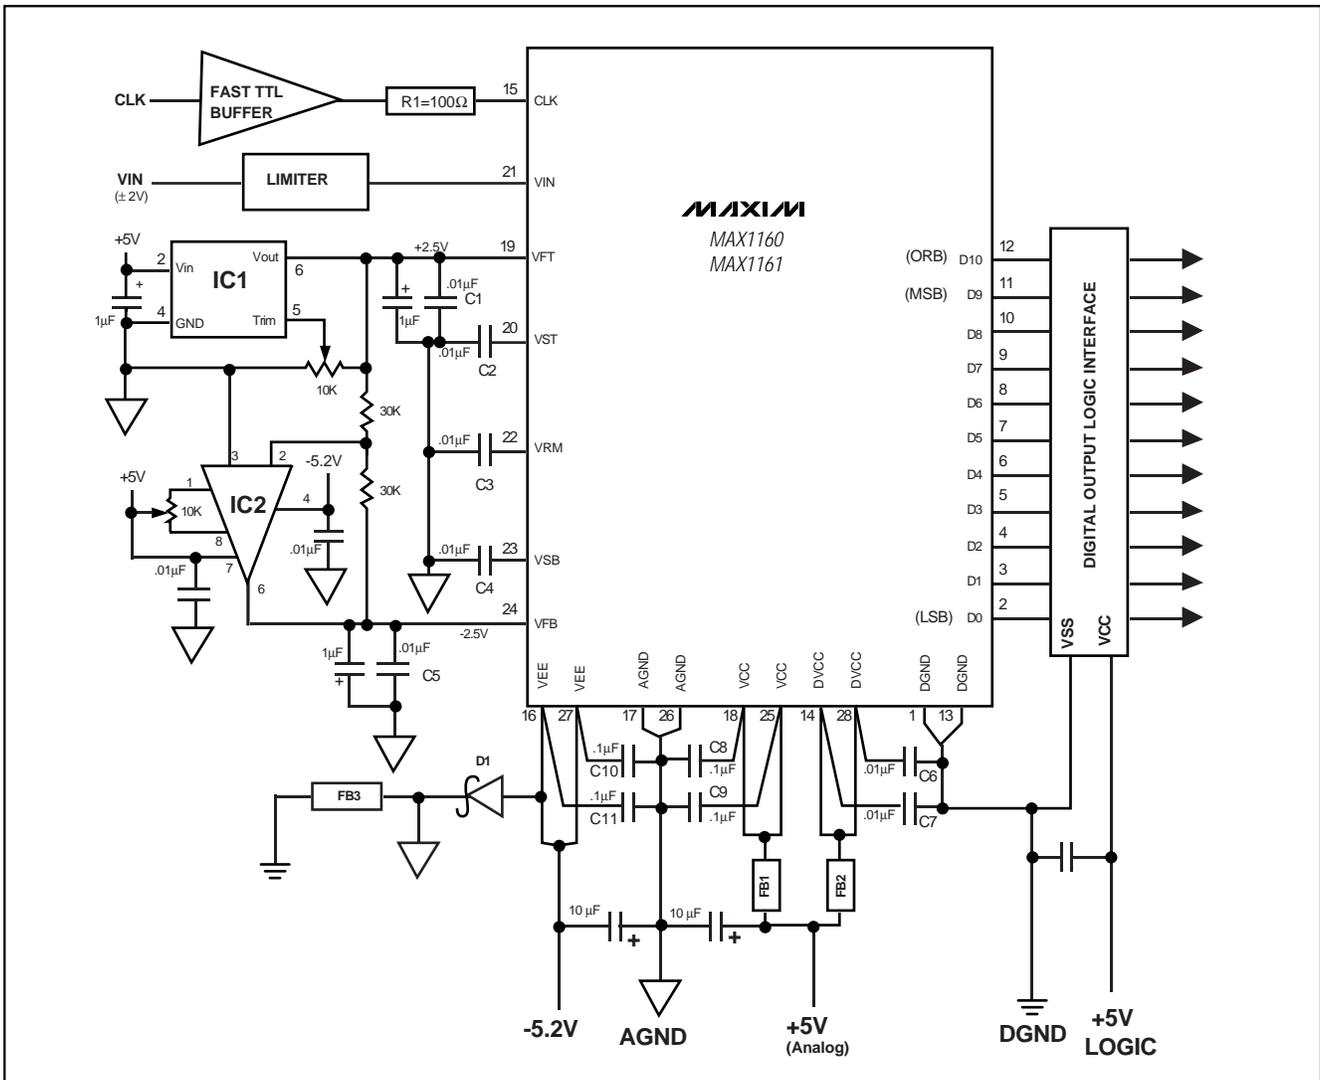

Figure 11. Typical Interfacing Circuit
The MAX1160/MAX1161 are free from latchup when the recommended interfacing circuit is used (Figure 11).
- The top reference (VFT) driver must be current limited to 20mA (max) if a different reference-driver circuit is used in place of the recommended circuit (Figure 11).